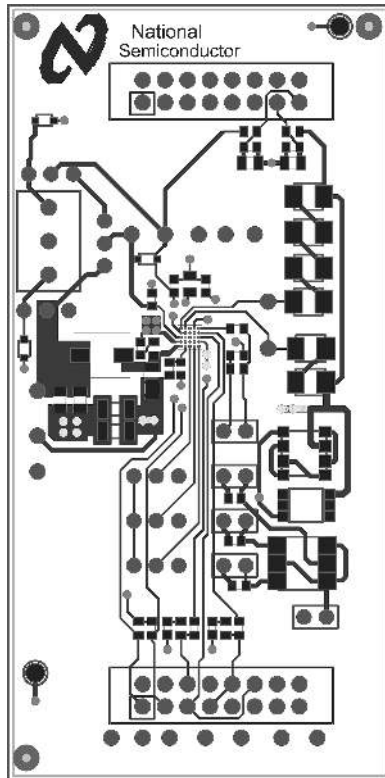

Figure 11. LP5526 Evaluation Board Layer 1 (Top, Signal)
1. Top, component side (Figure 11)